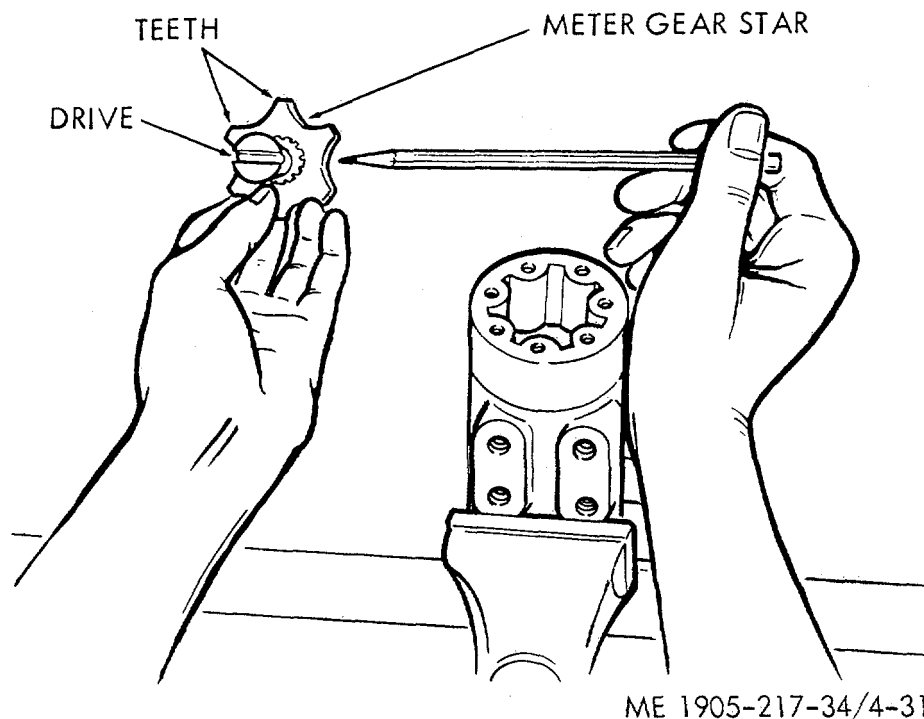

Figure 4-31. Drive and meter gear star.
(8) Reposition housing in vise (14 hole surface up) and clamp across the edges of the mounting plate. Check to insure that spool and sleeve are flush or slightly below the 14 hole surface of the housing. Clean the upper surface of the housing by wiping with the back of a clean hand or the butt of the thumb. Clean each of the flat surfaces of the meter section parts as it is ready for assembly in a similar way.
(9) Place the plate (3) over the housing assembly so the bolt holes in the plate align with the tapped holes in the housing. Place the meter gear ring (4) on the assembly so the bolt holes aline. Place the splined end of the drive within the meter gear star so that the slot at the control end of the drive is in alignment with the valleys between the meter gear teeth (fig. 4-31). Push the splined end of the drive through the gear so that the spline extends about one half its length beyond the meter gear star and hold it in this position while installing into the unit. Note the position or direction of the centering pin within the unit. Enter the meter gear star into the meter gear ring and wiggle the parts slowly in position so that the drive does not become disengaged from the meter gear star. Hold the plate and meter gear ring in position on the assembly while the star is being installed. Rotate the meter gear star slightly to bring the cross slot of the drive into engagement with the centering -pin and the splined end of the drive will drop down against the plate.